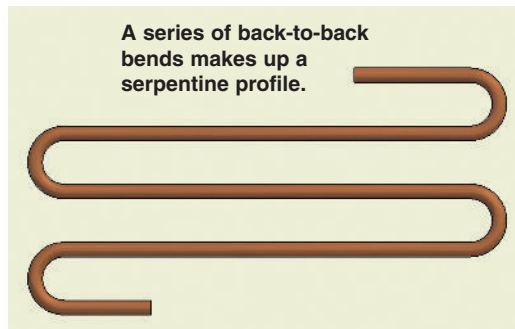

Figure 1
**YOU** might not see serpentine bends often, but they are used more commonly than you probably realize. Their main purpose is to transfer heat. A tube bent into a serpentine shape, successive 180-degree bends, allows an original equipment manufacturer (OEM) to fabricate a product that extracts heat from one environment and transports that heat into another (see Figure 1). For example, in a common household refrigerator, energy in